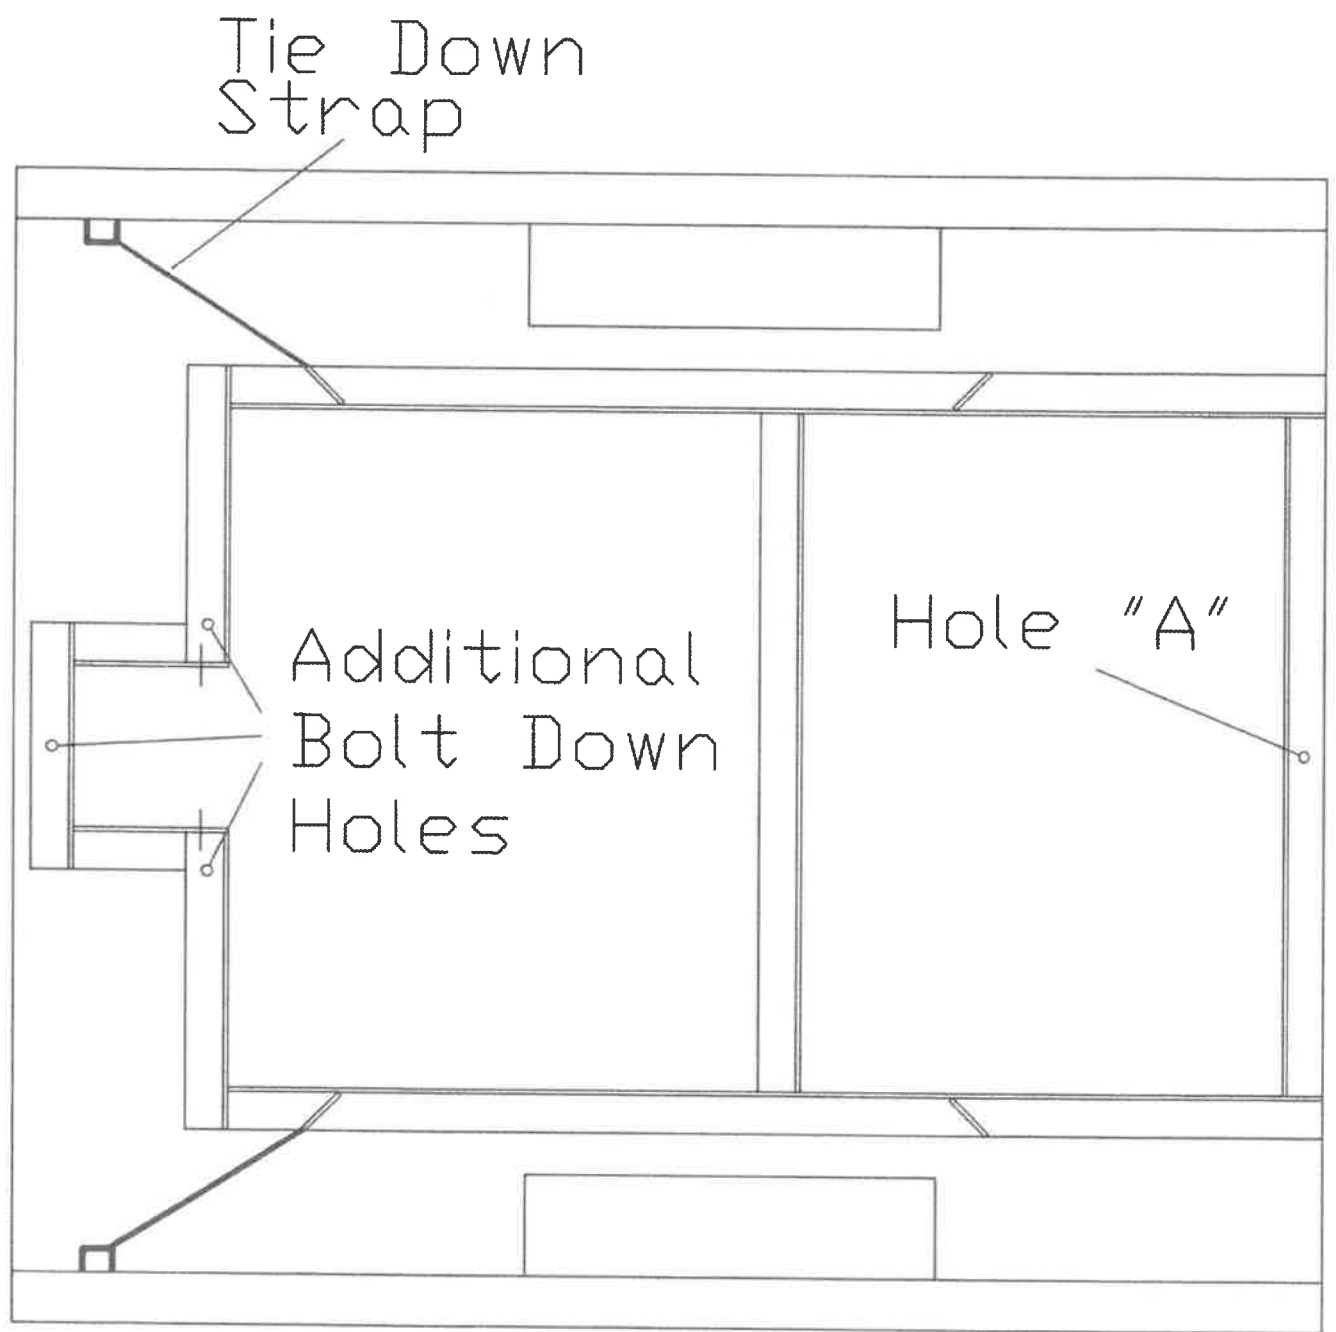

Figure 2
2. Drill a 5/8" diameter hole down through the pickup bed floor 1-1/4" forward of the rear edge and on the center line of the bed. See hole "A" on Figure 2.
4. **Option #1** Using heavy ratchet straps secure each side of the frame to the front tie down eyes on the pickup box. See Figure 2.